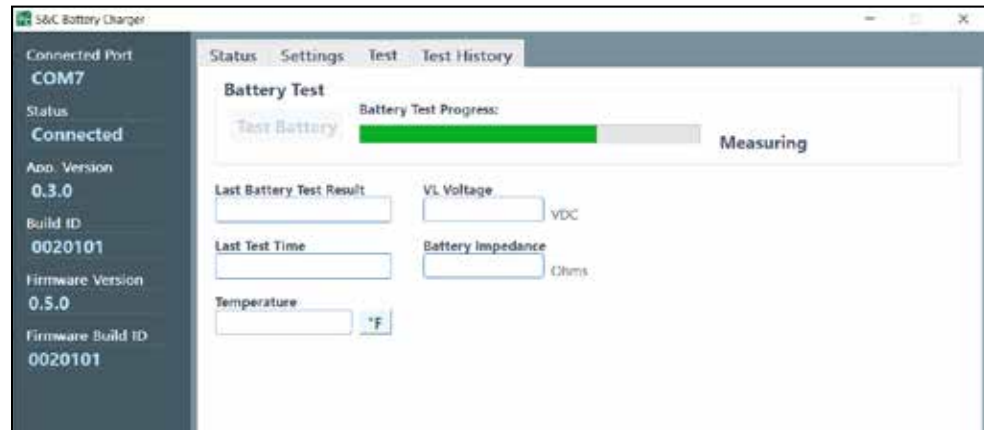

Figure 20. The Test tab during battery test.
- STEP 3.** Navigate to the **Test** tab. Click on the **Test Battery** button. The Battery Test Progress bar will show the progress of the battery test. See Figures 20 and 21. If an **Overvoltage** or an **Undervoltage** state is detected, the appropriate indicator light on the front panel will illuminate, as will the status indicators on the **Status** tab. The possible test results are listed in Table 5 on page 23.